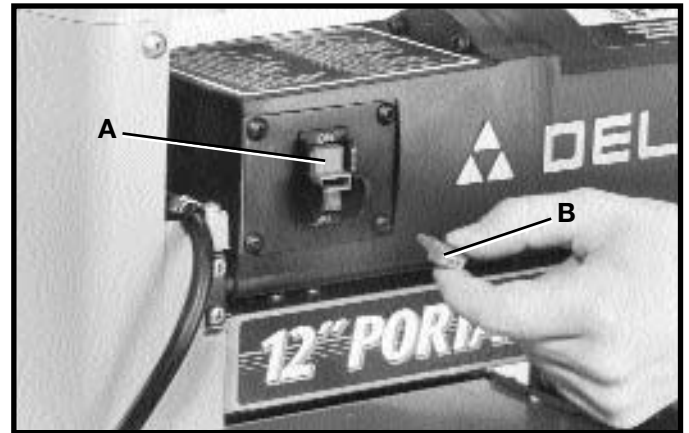

Fig. 14
IMPORTANT: When the tool is not in use, the switch should be locked in the “OFF” position to prevent unauthorized use. Grasp the switch toggle (B) and pull it out as shown in Fig. 14. With the switch toggle removed, the switch will not operate. However, should the switch toggle (B) Fig. 14, be removed while the machine is running, the switch (A) can be turned “OFF” once, but cannot be restarted without reinserting the switch toggle.